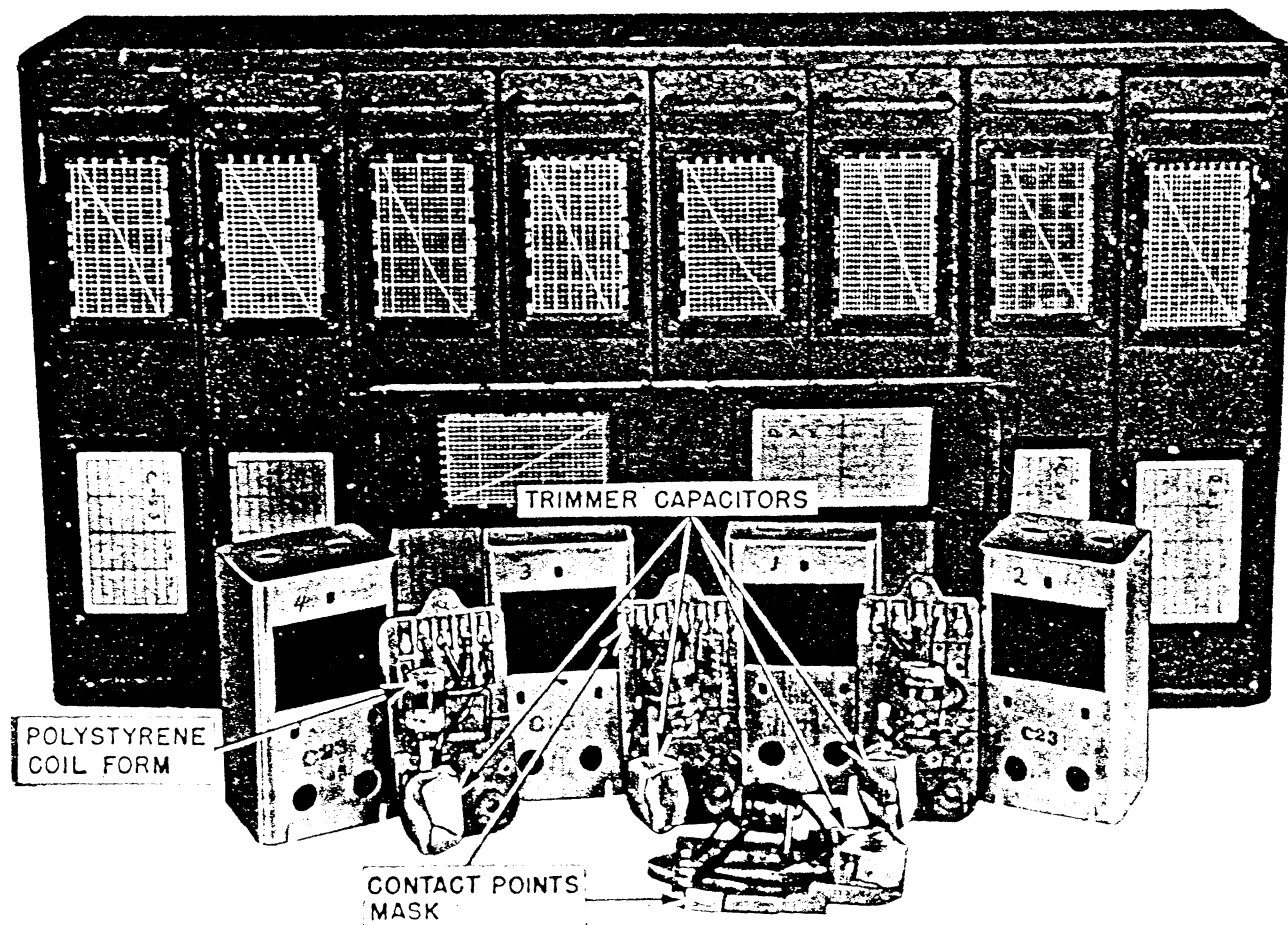
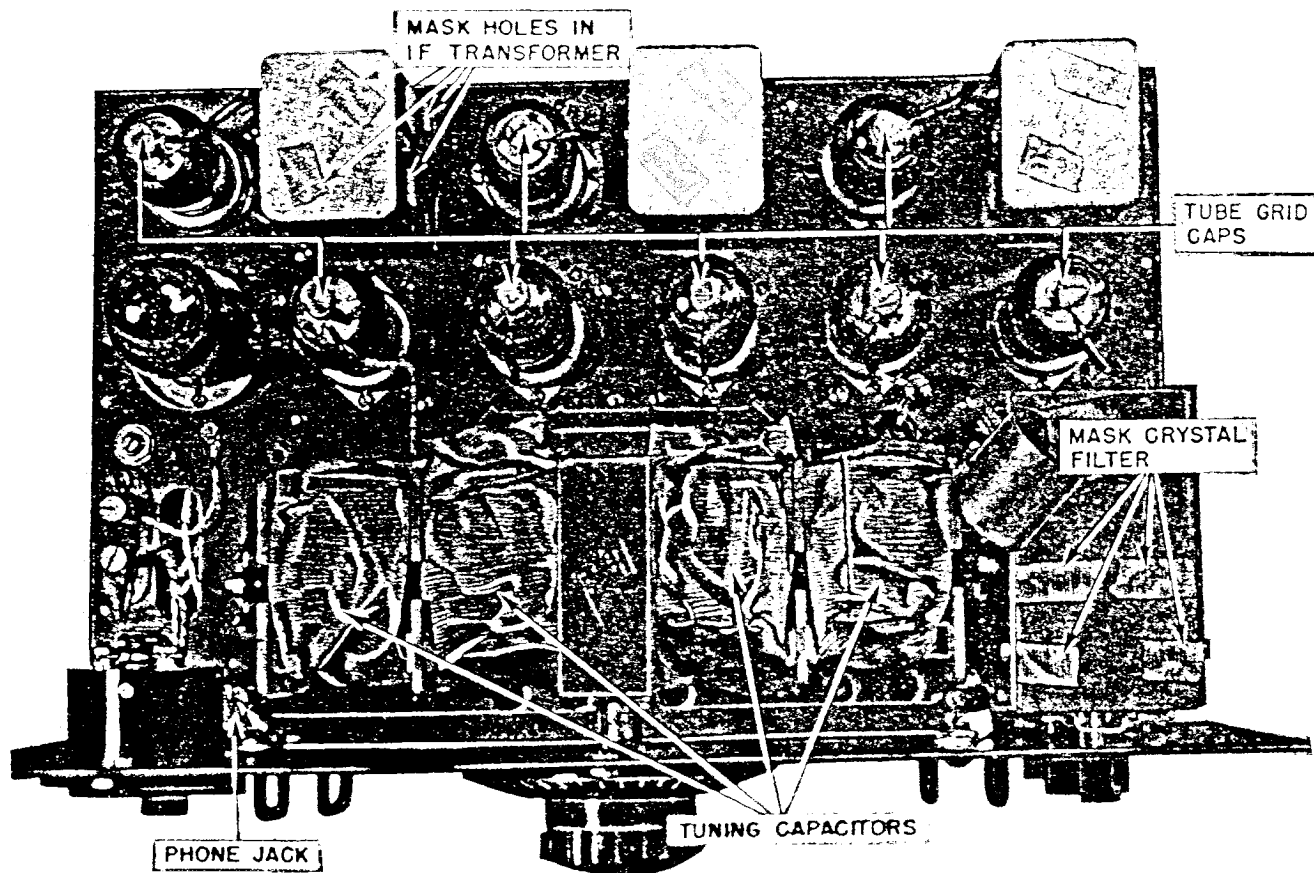

Figure 26. Masking of plug-in coils of the receiver.
Figure 27. Masking of chassis of Radio Receiver R-140/FSM-1.
d. MASKING (fig. 26). (1) Cover the trimmer capacitors with masking tape.
(2) Cover the contact points with masking tape.
d. MASKING (fig. 27). (1) Cover contact points for plug-in coils in receiver with masking tape.
(2) Cover the face of meter with masking tape.
(3) Cover phone jack on the front panel with masking tape.
(4) Remove tube shields and cover tube grid caps with masking tape.
(5) Cover all holes in i-f transformers and crystal filter shields with masking tape.
(6) Cover contact leaves of phone jack mounted on the back of front panel with masking tape.
(7) Cover ground and antenna binding posts with masking tape.
(8) Mold paper around the variable c-w capacitor on the bottom of the chassis. Fasten the paper with masking tape.
(9) Mold paper around the tuning capacitors and fasten with masking tape.
(10) Cover zero adjusting potentiometer of S-meter with masking tape.